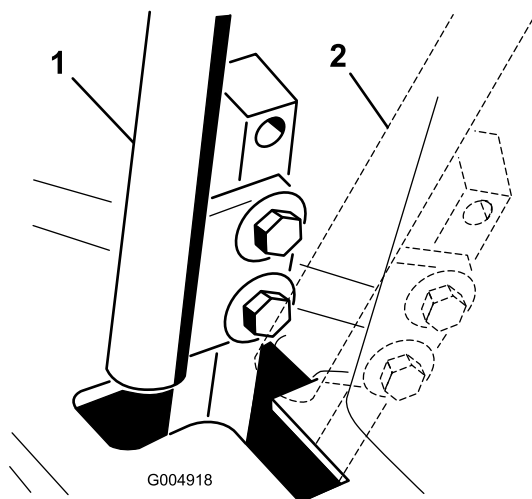

Figure 59
4. Move one of the levers to the neutral position but **not locked** (Figure 59).
6. Check where the control lever is relative to notch in console (Figure 59). It should be centered allowing lever to pivot outward to the neutral lock position.